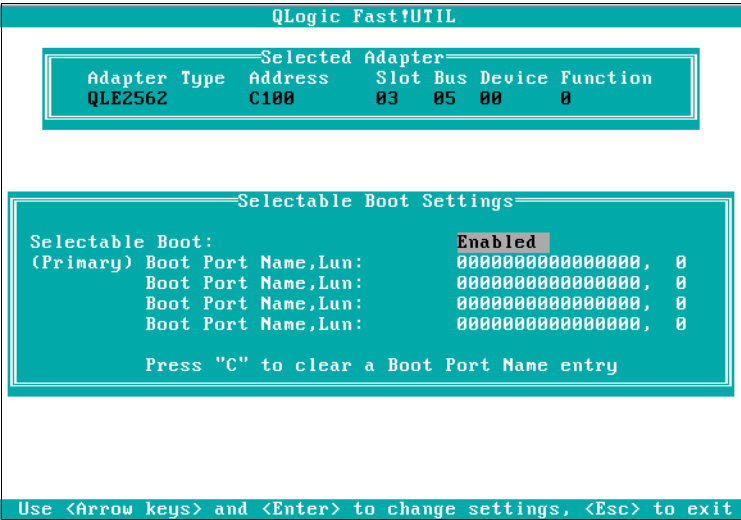

Figure 3-20 Enable Boot
11.Change Selectable Boot Settings to **Enabled**, as shown in Figure 3-20.